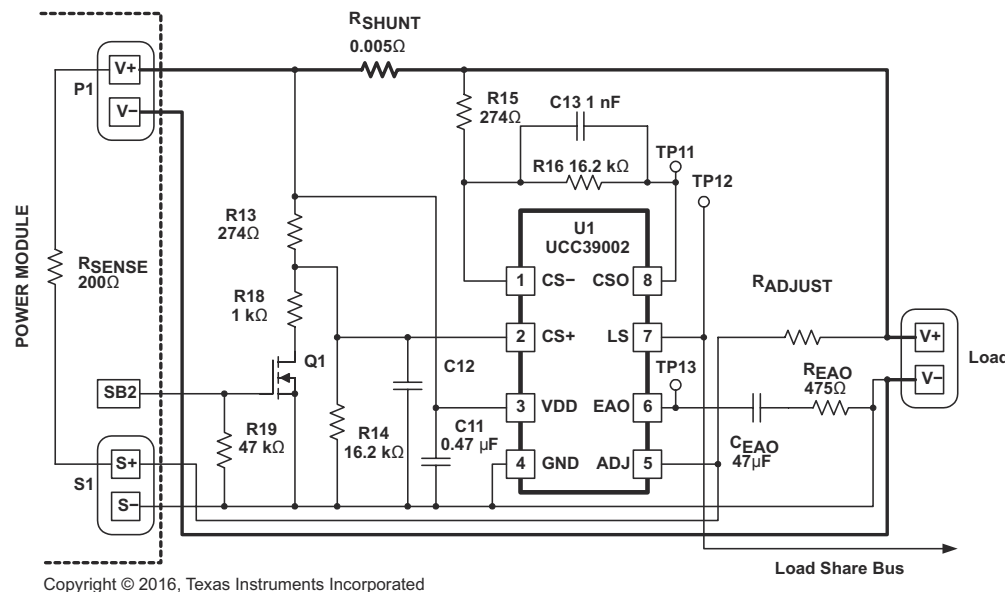

Figure 7-1. Typical High-Side Application for a Single Power Module
Figure 7-1 shows a typical high-side current-sense configuration for a single module which is repeated for each module to be paralleled. Direct connection of the VDD pin to the power module V_{OUT} rail ($V+$) is valid for V_{OUT} less than 13.5V.
In 図 7-1, P1 represents the output-voltage connector terminals of the module and S1 represents the remote-sense connector terminals of the module. In this example, a signal on the SB2 terminal enables the disconnect feature of the device. The Load-Share Bus is the common bus between all of the paralleled load-share controllers. The VDD supply must be decoupled with a good-quality ceramic capacitor returned directly to GND.
Referring to 図 7-1, the DC gain of the CSA is equal to R_{16}/R_{15} , and a high-frequency roll-off pole used for noise filtering is set by C_{13} . These component values are repeated at R_{14} , R_{13} , and C_{12} on the CS+ pin of the differential amplifier, as shown.
where (referring to 図 7-1)
- A_{CSA} is the DC gain of the Current-Sense Amplifier. (R15, R16 refer to Figure 7-1.)